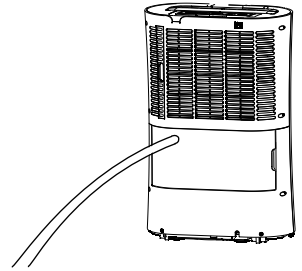

Fig. 5
4. Connect the draining hose (13) to the outlet neck (11) (Fig. 5).
5. Replace the water tank (if removed) and close the door (8).